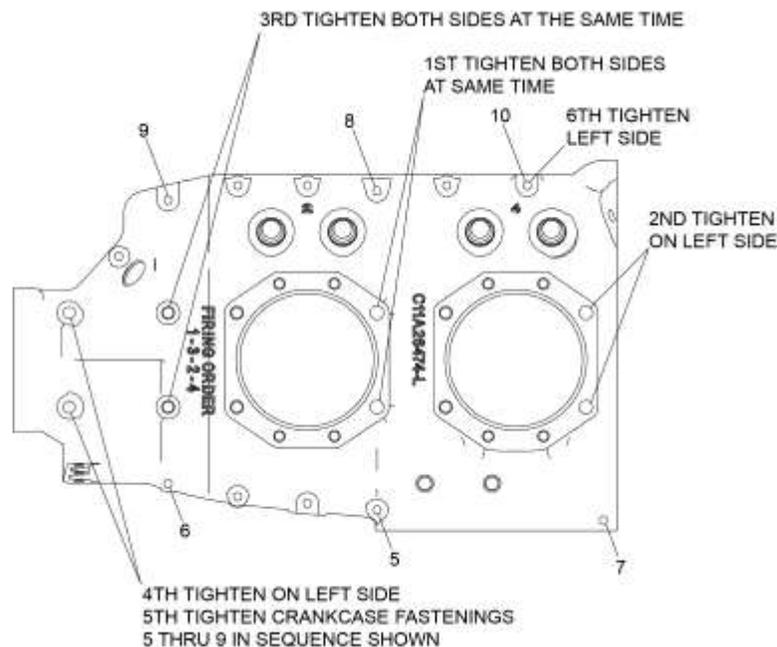
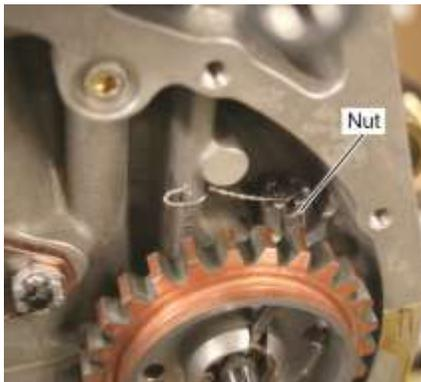

Figure 88
Figure 89
CAUTION: TO ENSURE CORRECT ASSEMBLY OF THE CRANKCASE HALVES, TO MINIMIZE THE POSSIBILITY OF THE SUBSEQUENT LOOSENING OF CYLINDER BASE NUTS, AND TO ENSURE A UNIFORM LOAD ON THE MAIN BEARINGS IN THE CRANKCASE, FOLLOW THE STEPS IN THE TORQUE SEQUENCE IN THE ORDER GIVEN IN FIGURE 88.
- (14) Install a nut (and spacer as required) on each thru-stud at the mating flanges on the crankcase halves in the sequence shown in Figure 88 to attach the crankcase halves securely.
NOTICE: To ensure uniform loading on the main bearings, immediately torque the nuts on the free thru-studs and the anchored thru-studs in sequence (Figure 88), beginning at the center of the crankcase and then progressing alternately to the rear and front of the engine.
- (15) Tighten the nuts on thru-studs (to maintain bearing pre-load) at the:
- (16) Torque the nuts in sequence at positions 1st, 2nd, and 3rd to 25 ft.-lb (34 Nm).
- (17) Re-torque the nuts in sequence at positions 1st, 2nd, and 3rd per the torque values in Table 5
- (18) Torque the front bolts at position 4 on the left side to 25 ft.-lb (34 Nm).
- (19) Torque the 1/4-in. nuts at positions 5 thru 10 (in the order shown in Figure 88) to 96 in.-lb. (11 Nm).
- (20) Torque the remaining crankcase fasteners as indicated in Table 5.
- (21) Make sure all fasteners on the crankcase are torqued correctly and none are loose.
- (22) Install the 3/8 in. slotted nut and washer on the stud at the rear camshaft bearing (Figure 89). Torque the nut to 215 in.-lb. (24 Nm). Safety wire the nut as shown in Figure 89.